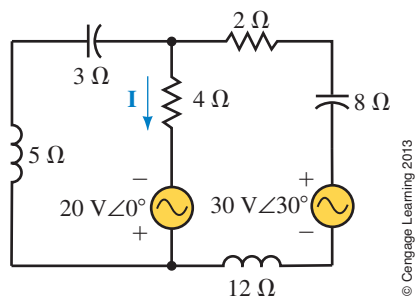

FIGURE 19-57
- Consider the circuit of Figure 19-57.